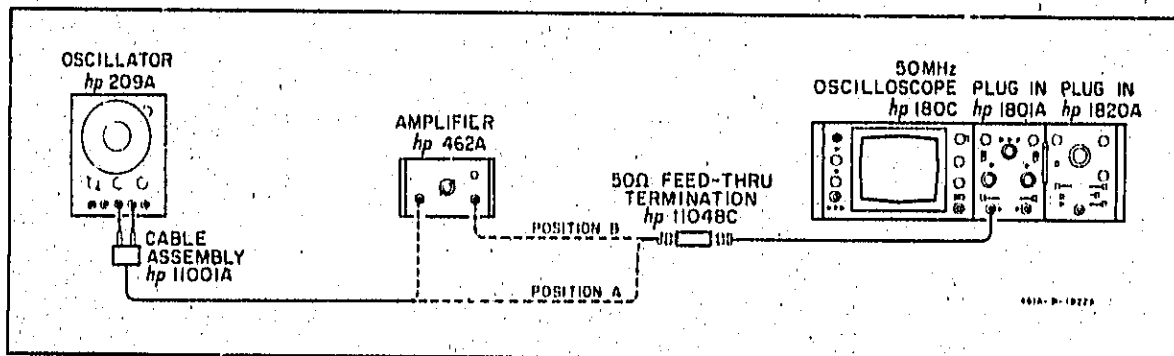

Figure 5-6. Pulse Duration Check
- a. Connect the 462A as in Figure 5-6, position A.
- c. Connect the circuit as in Figure 5-6, position B, keeping all leads as short as possible. Set
- a. Connect the circuit as in Figure 5-6, position A.
- c. Connect the circuit as in Figure 5-6, position B, with the 461A or 462A in the 20 dB GAIN position. The base line, or level after the pulse, should be restored within 1 us after the trailing edge of the pulse. (Dual channels of the oscilloscope can be used to show input and output pulses simultaneously).